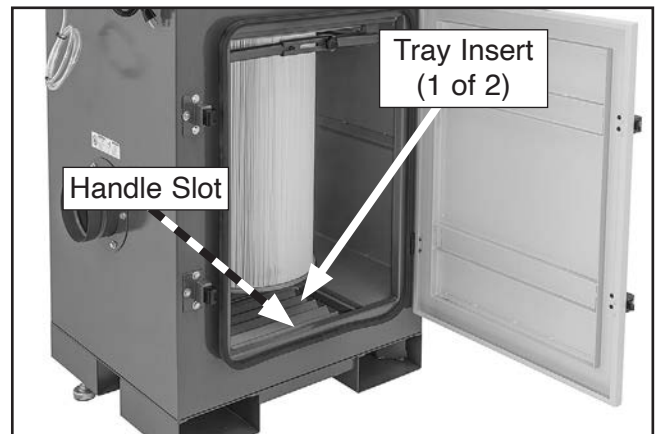

Figure 37. Dust tray components.
3. Using handle slot, lift dust tray up and out of cabinet (see **Figure 37**).